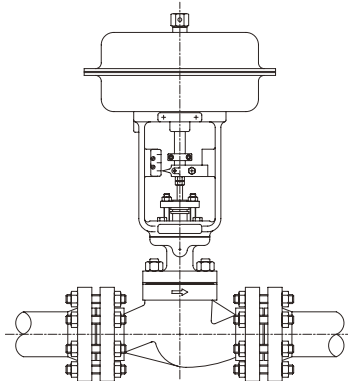

Fig. 1 - Valve installation
4.6. During the installation the actuator must be positioned on the valve and in vertical position (figure1). If possible, look for a position closer the vertical one. The horizontal position should be avoided and, in some cases, there should be a support to the actuator.